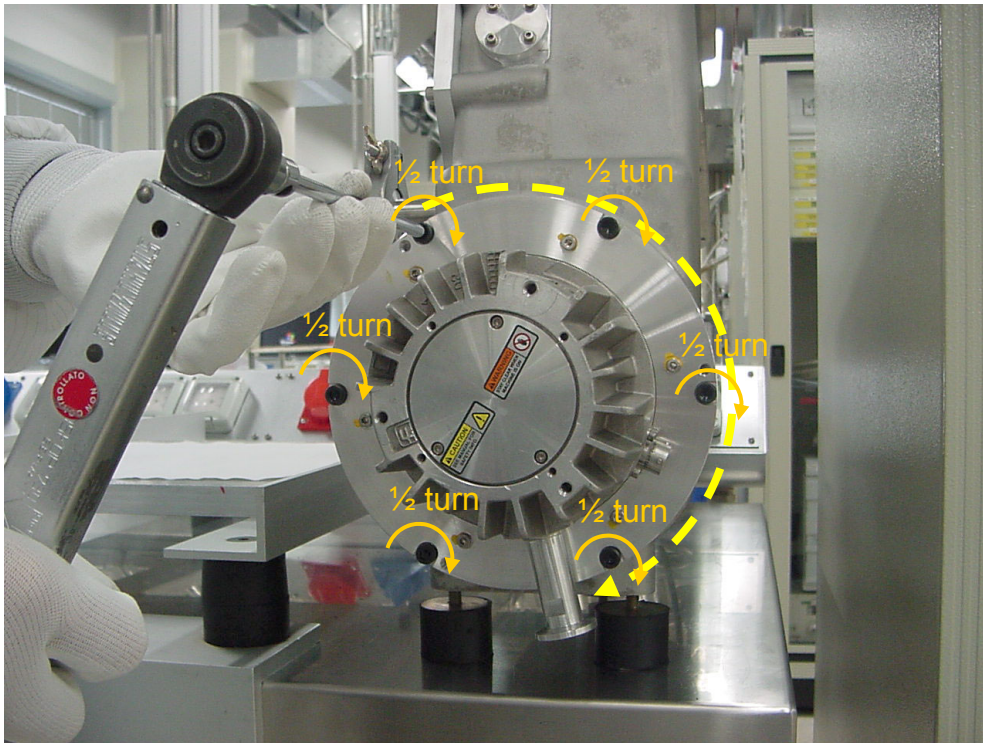

Figure 5
4. Screw in the 6 sphere-screws clockwise into the notched smooth holes present on the flange, starting anywhere, and proceeding 1/2 turn/lap, until the pump flange is in contact with the chamber flange (Fig. 5).